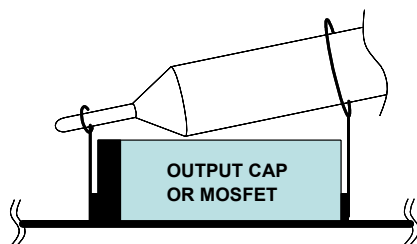

FIGURE 2. PROPER PROBE SET-UP TO MEASURE OUTPUT RIPPLE AND PHASE NODE RINGING
5. Use an oscilloscope to observe output voltage ripple and Phase node ringing. For accurate measurement, please refer to Figure 2 for proper test set-up.